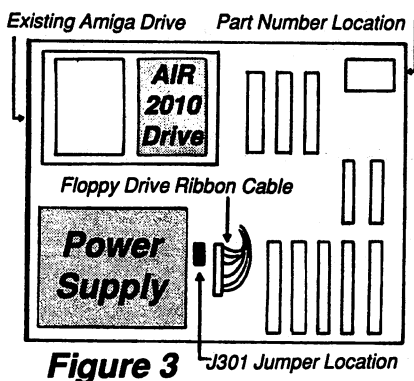

Figure 3 J301 Jumper Location
Place the included jumper block on the motherboard of the 2000. To determine where to place it, you must look at the part number of the motherboard. The part number is printed on the front left corner of the board as shown in figure 3. If the part number printed on your board is 312723, you should continue at step 5A, otherwise proceed to step 5B instead.
Step 5A: If the part number of your Amiga motherboard is 312723, the jumper must be placed on the block marked J301 just to the right of the floppy drive connector on the motherboard. See figure 3 for an illustration.
Step 5B: If the part number of your Amiga motherboard is 380705-01, the jumper must be placed on the block marked J36 located underneath the power supply. To do this, you must remove the power supply which is attached by screws on the front and back of the machine. See figure 3 for an illustra-